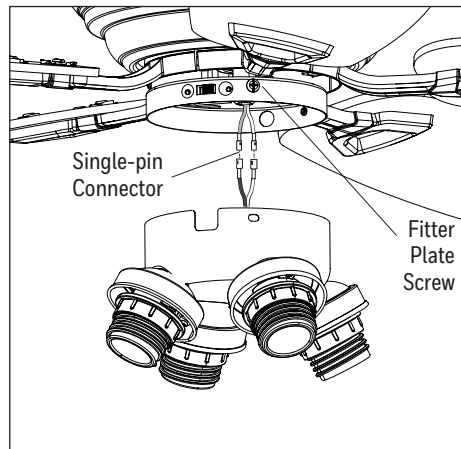

Figure 2.11
11. **To INSTALL THE FAN WITHOUT THE LIGHT KIT**, proceed to page 7. To install the light kit, remove the three fitter plate screws preassembled to the fitter plate. Then, connect the single-pin connectors from the fitter plate and the light kit -- blue to black and white to white (Figure 2.11).